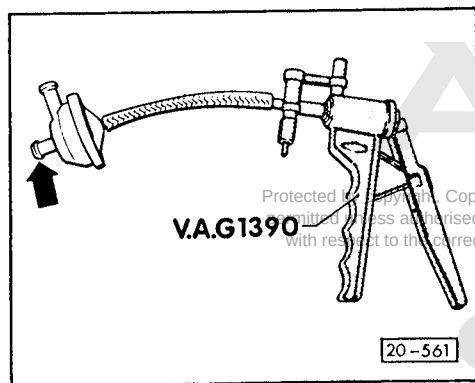

Fig. 1 Checking cut-off valve for activated charcoal filter
• Checking - page 25-234 - Fig. 1